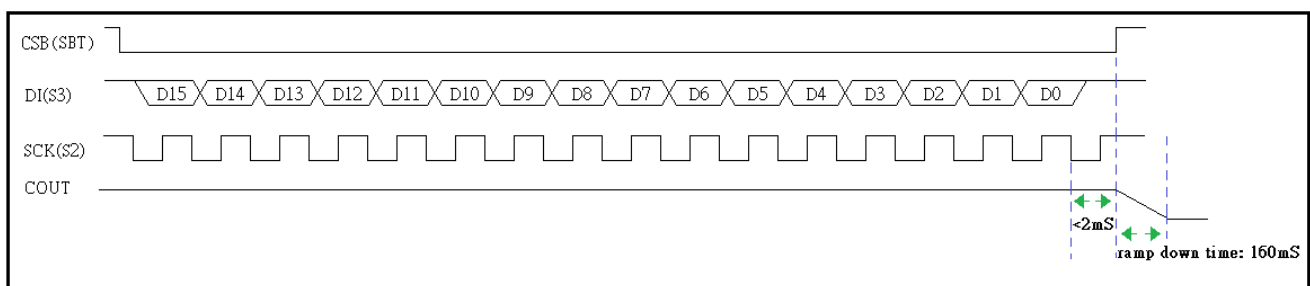

Fig. 12 Power-Down command timing
- a. Command timing reference Fig. 12 Power-Down command timing.